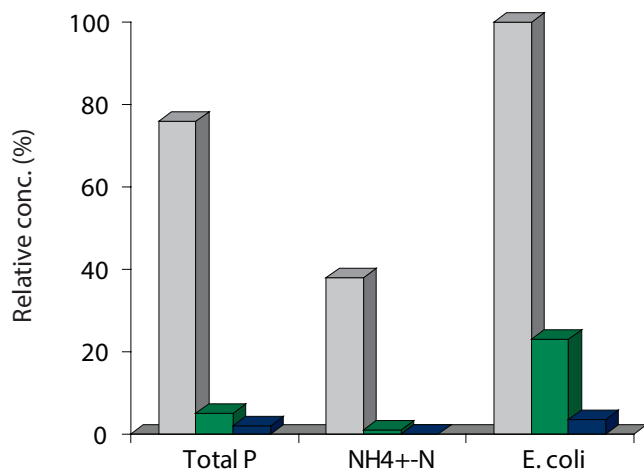

Figure 1.
- It also shows nitrogen levels in the drainage are minimized to almost zero (figure 1)